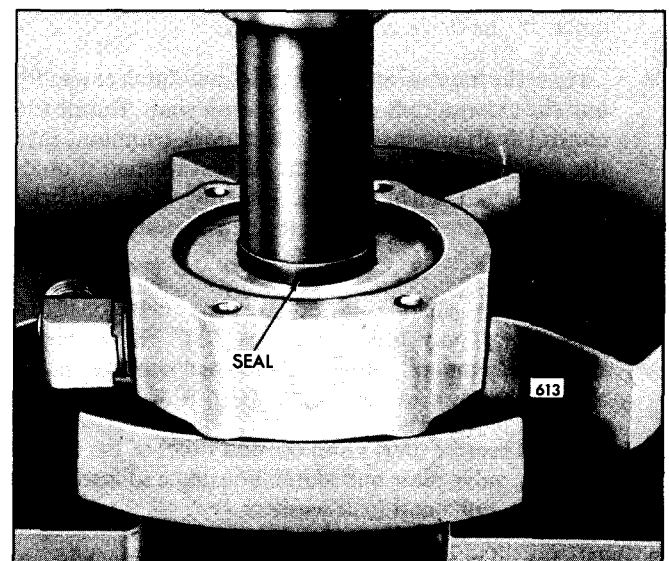

Fig. 7 – Installing Hydrostarter Shaft Seal in Valve Plate
2. If the shaft oil seal was removed, install a new seal in the valve plate with the lip of the seal facing in, using installer J 7190 on a "20" series motor or installer J 9555 on a "35" series motor (Fig. 7). The seal is properly positioned when the installer bottoms in the valve plate. Install the oil seal retaining ring in the ring groove in the valve plate.